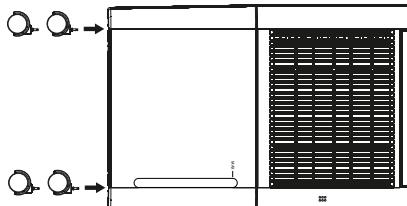

Fig. 1
- ◆ Press the castors ⑥ into the four holes on the bottom of the appliance until they fully click into place (see fig. 1).